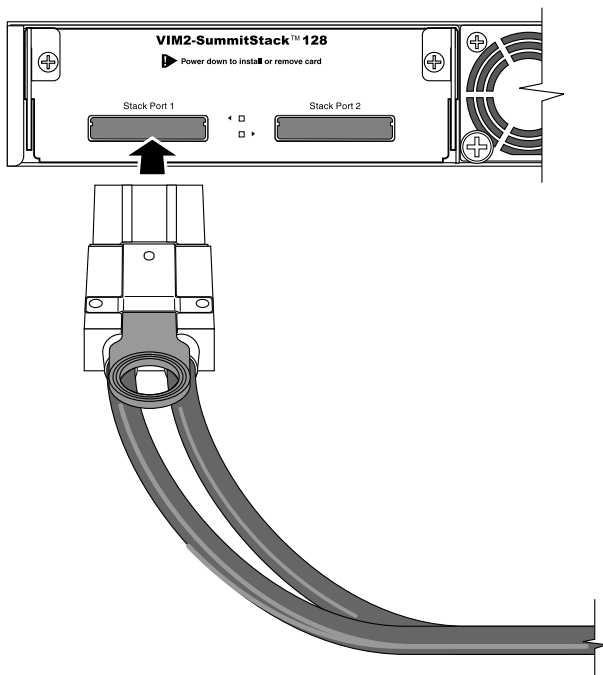

Figure 206: Connecting a SummitStack 64G Cable
- 1 Holding the cable connector with the release tab on top, align the connector with the stacking port on the VIM2 module in the Summit X480 series switch (see Figure 206: Connecting a SummitStack 64G Cable on page 238).